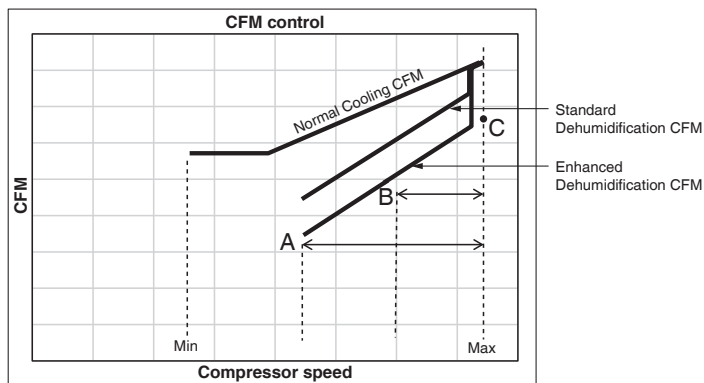

Figure 1
- In addition, the system can have Enhanced Dehumidification operation in setting "A", "B" or "C" based on dehumidification demand. In the Enhanced Dehumidification the indoor airflow is lower than Standard Dehumidification. Setting "A" allows for the widest compressor range with lower cfm than standard dehumidification. Setting "B" limits compressor operation range and keeps high dehumidification capacity. In setting "C" the system runs fixed at 100% compressor and airflow. See Figure 1.